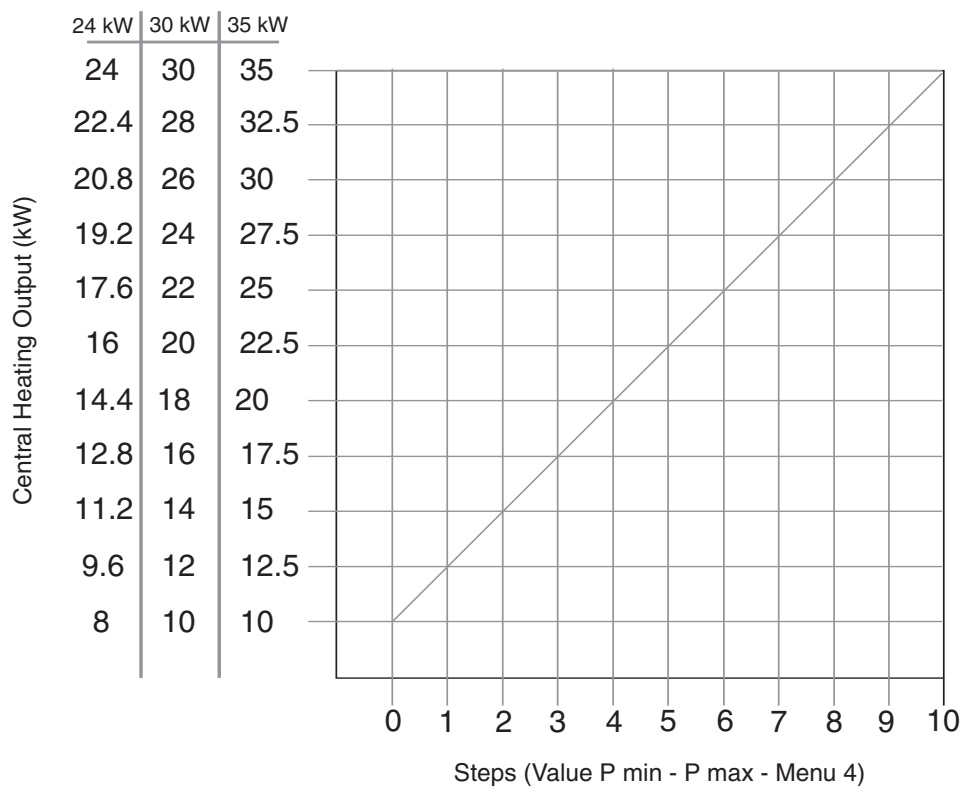

Fig. 44
3. The value is adjustable between 0 and 10, 0 being the minimum output and 10 being the maximum, please refer to the chart on page 36 (Fig. 44) for the required setting;
5. Range rate the thermal power for central heating as detailed in Section 14.5. To adjust the maximum heating power it is necessary to follow the steps in Section 14.5 Menu 4 (page 41). and adjust in relation to the chart on Page 36 (Fig. 44);